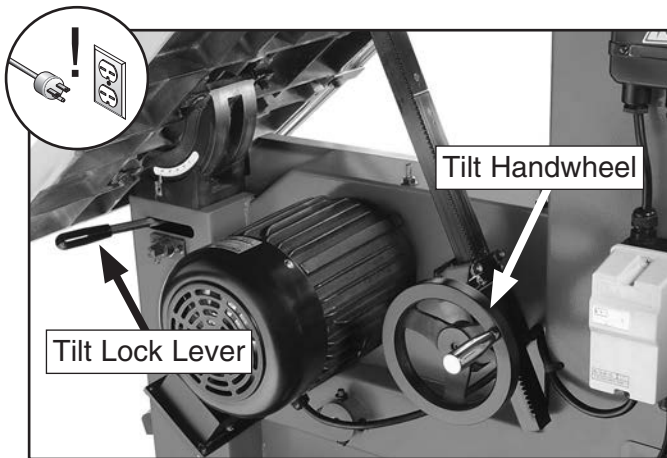

Figure 17. Table tilted up.
- Loosen the table tilt lock handle, then use the table tilt handwheel to raise the table (see **Figure 17**).